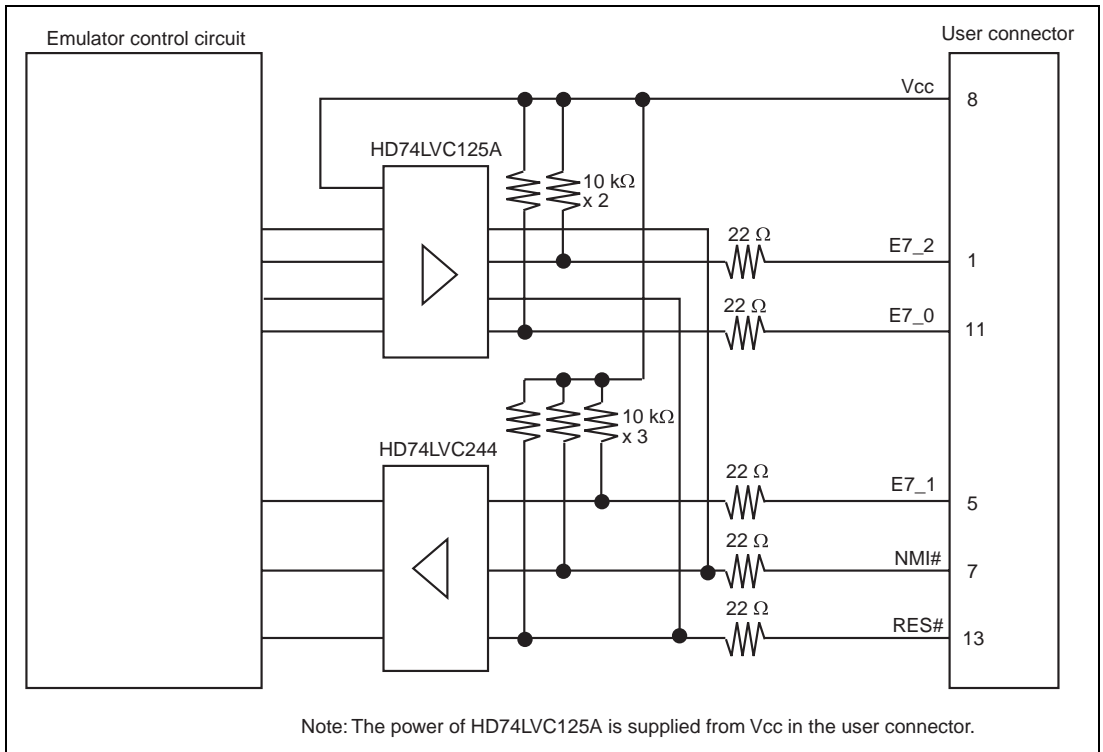

Figure 3.5 Interface Circuit in the Emulator (Reference)
9. Figure 3.5 shows the interface circuit in the emulator. Use this figure as a reference when determining the pull-up resistance value.